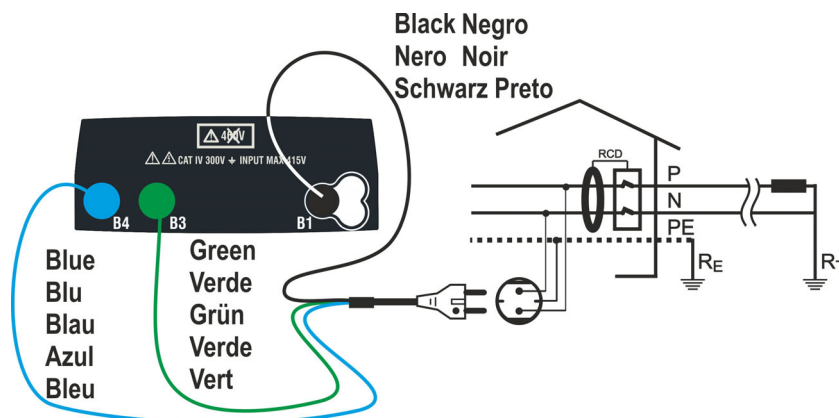
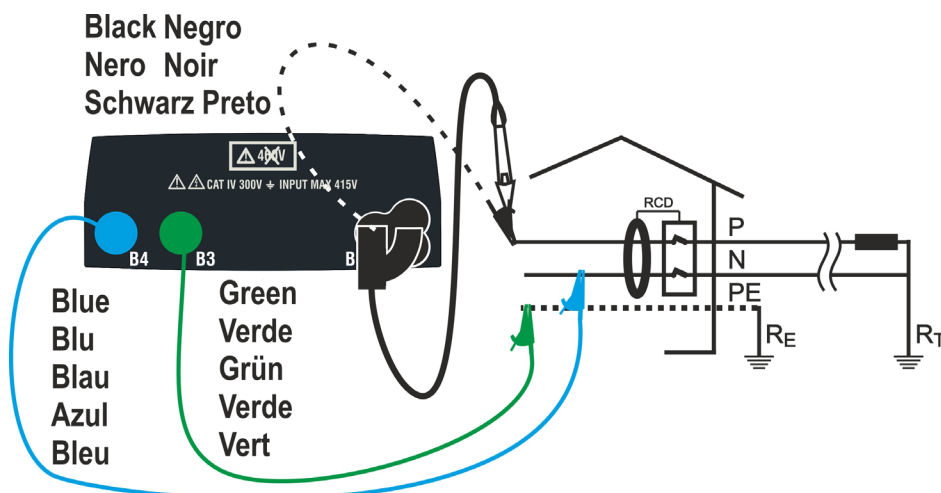

Fig. 4: Instrument connection through mains plug
Fig. 5: Instrument connection by means of single cables and remote switch probe
- Insert the green, blue and black connectors of the three-pin plug cable into the corresponding inputs B1, B3 and B4 of the instrument. As an alternative, use the single cables and apply the relevant alligator clips to the free ends of the cables. It is also possible to use the remote switch probe by inserting its multipolar connector into the input B1. Connect the plug, the alligator clips or the remote switch probe to the electrical mains according to Fig. 4 or Fig. 5